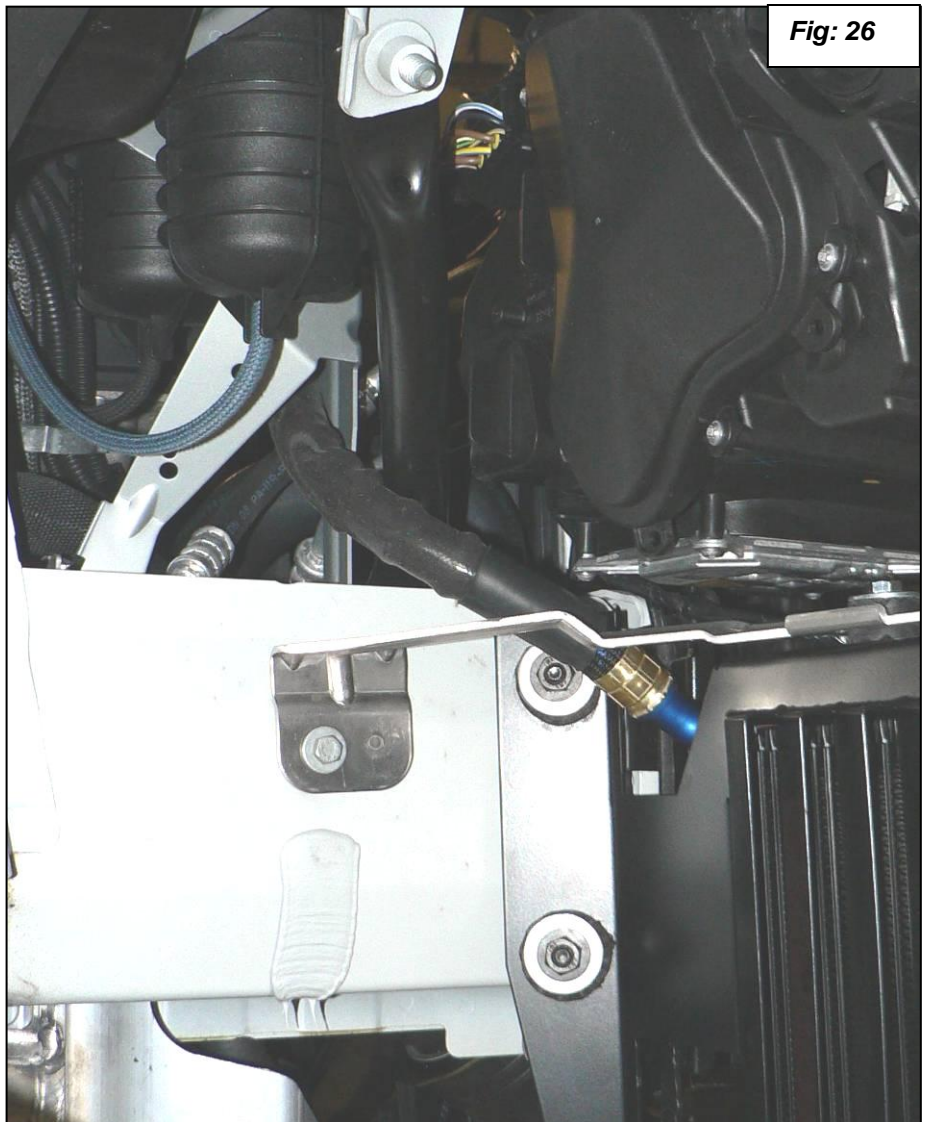

Fig: 26
27. Feed the oil line in between the bracket as shown in figure 23. Attach the oil cooler assembly to the mounts as shown with the two stock 8mm nuts and the 6mm bolt. Torque nuts to 20Nm (15ft-lbs.) and bolt to 8Nm (6ft-lbs.). See figure 26. Install the supplied small pieces of edge trim to the bracket where the hose might rub.